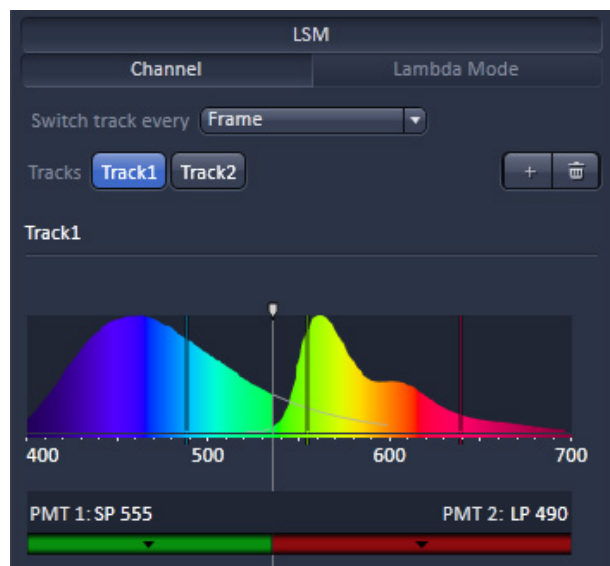
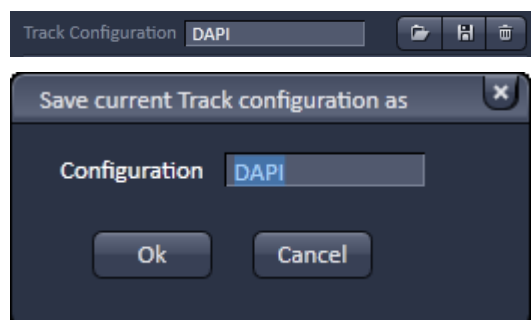

Fig. 17 Detection bands & Laser lines display
Fig. 18 Track Configurations window
- The Detection Bands & Laser Lines are also displayed in a spectral panel (Fig. 17) to visualize the activated laser lines for excitation (vertical lines) and activated detection channels (colored horizontal bars).
- For storing a new track configuration open the **Channels** tool in the **Acquisition Parameter** tool group, click  and enter a desired name in the box (Fig. 18). Press **OK** to confirm.
The following functions are available in the **Light Path** tool of the **Setup Manager** tool group (, Fig. 17 and Fig. 18).